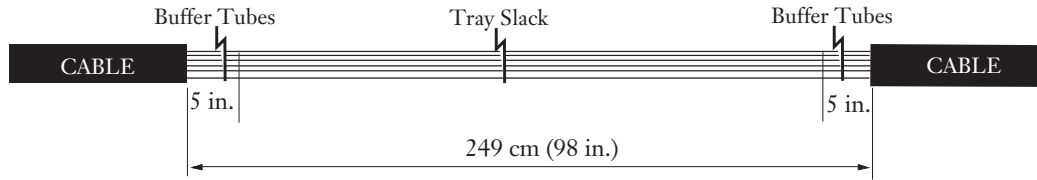

Figure 2
Step 1: Remove indicated length of cable sheath and armor (where applicable) according to cable manufacturer's instructions (Figure 2).
Step 1: Remove indicated length of cable sheath and armor (where applicable) according to Figure 2.